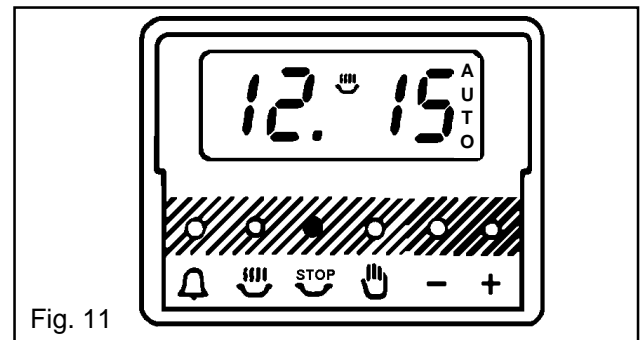

Fig. 11
- vi) To check the stop time during the cooking period, simply press the stop time button (STOP) and the stop time will be displayed, as Fig. 11.